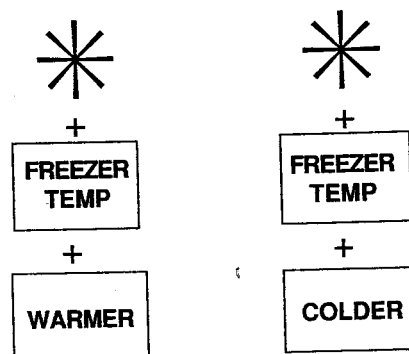

Figure 12
- To set or change freezer temperature, press START (*) pad; press FREEZER TEMP; press WARMER or COLDER to raise or lower temperature setting *one* level at a time. Press and hold WARMER or COLDER pads to raise or lower temperature *more than one* level at a time. See Figure 12.